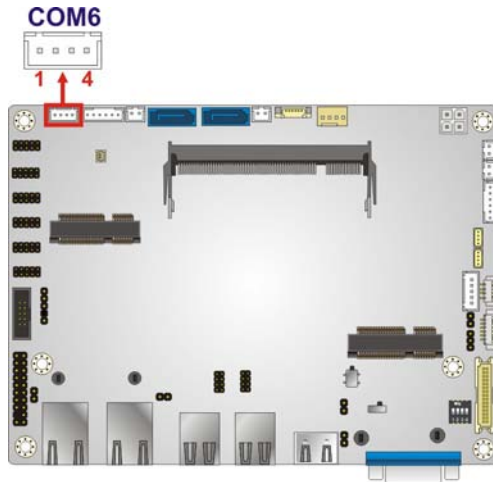

Figure 3-21: RS-422/485 Connector Location
- CN Location: See **Figure 3-21**